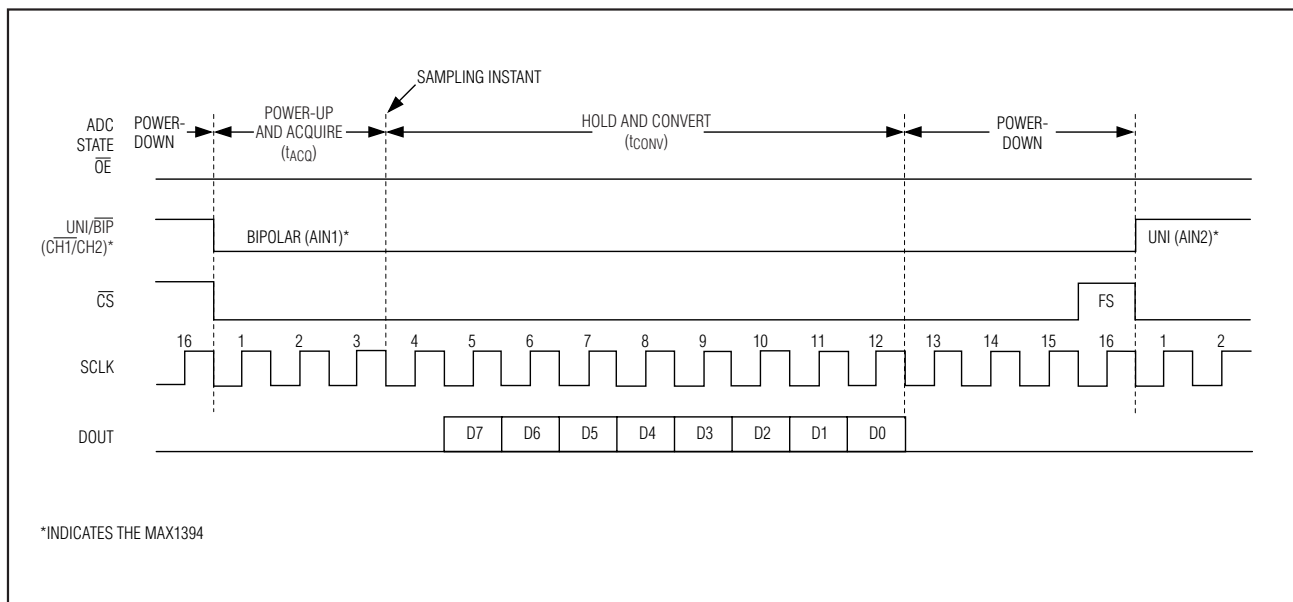
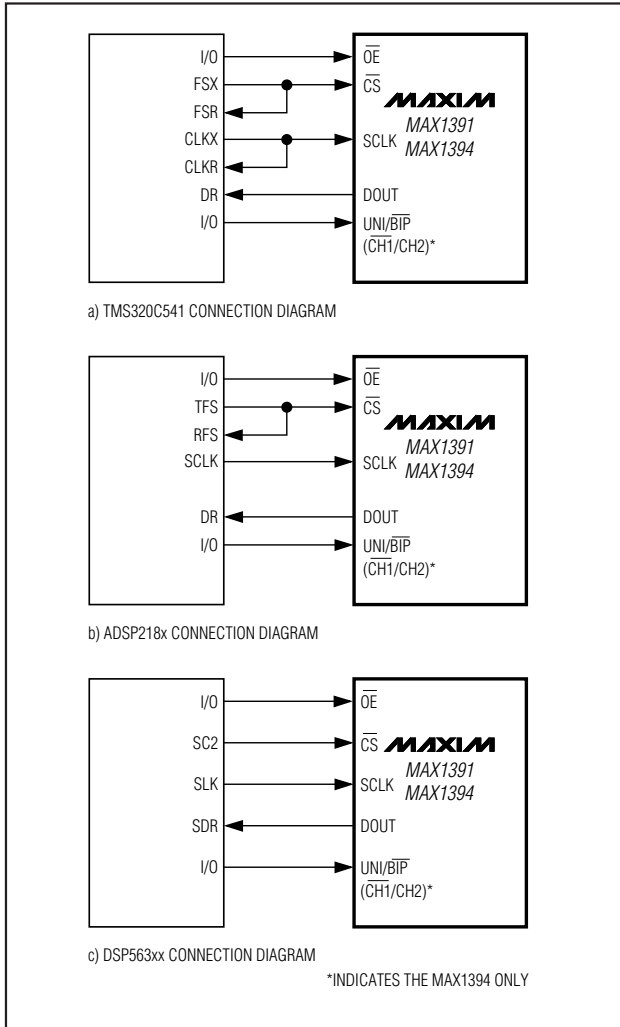

Figure 10. DSP Serial-Timing Diagram
Figure 11. Common DSP Connections to the MAX1391/MAX1394
Figure 10 shows the timing for DSP operation. Figure 11 shows the connections between the MAX1391/MAX1394 and several common DSPs.
As shown in Figure 11, drive the MAX1391/MAX1394 chip-select input (CS) with the DSP's frame-sync signal. OE may be connected to GND or driven independently. For continuous conversion operation, keep OE low and make the CS falling edge coincident with the 16th falling edge of the SCLK.